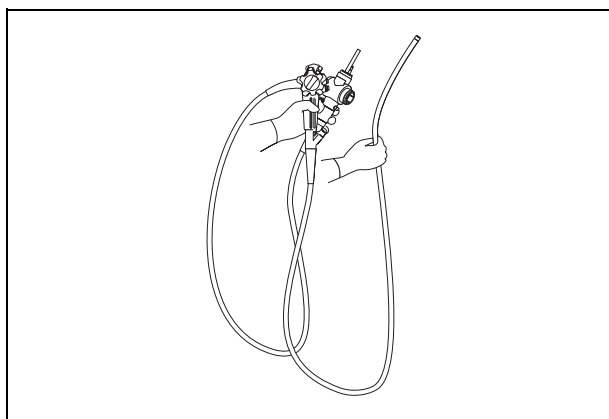

Figure 4.5
2. When carrying the endoscope by hand, loop the universal cord, hold the endoscope connector together with the control section in one hand and hold the distal end of the insertion tube securely, but gently without squeezing, in the other hand (see Figure 4.5).